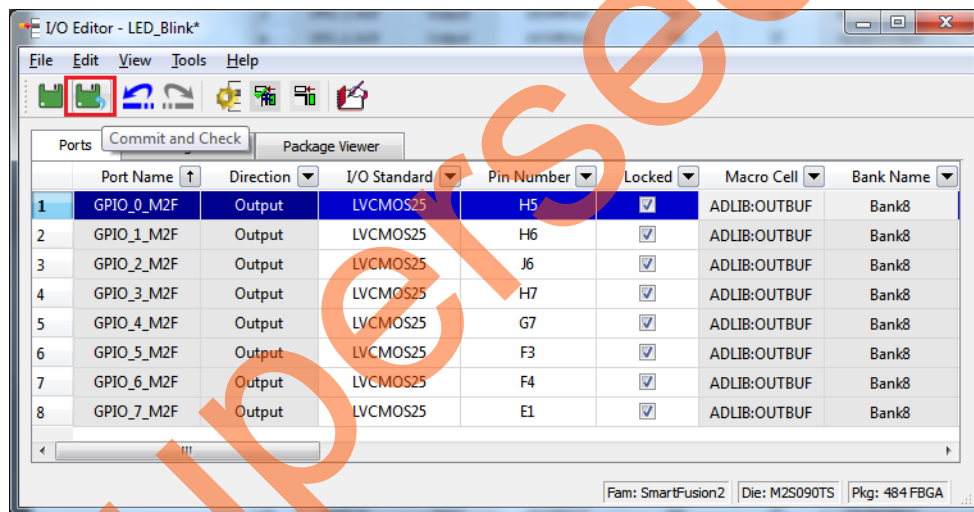

Figure 16 • I/O Editor
2. Make the pin assignments, as shown in Table 4. After the pins have been assigned, the **I/O Editor** is displayed, as shown in Figure 16 on page 15.